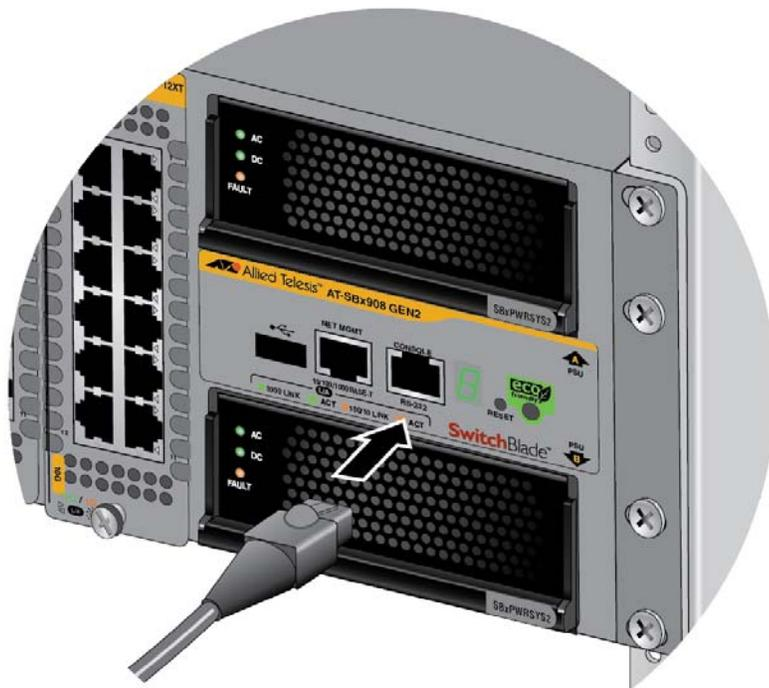

Figure 99. Connecting the Management Cable to the Console RS-232 Port
3. Connect the RJ-45 end of the management card included with the switch to the Console RS-232 port on the management panel. Refer to Figure 99 on page 158.